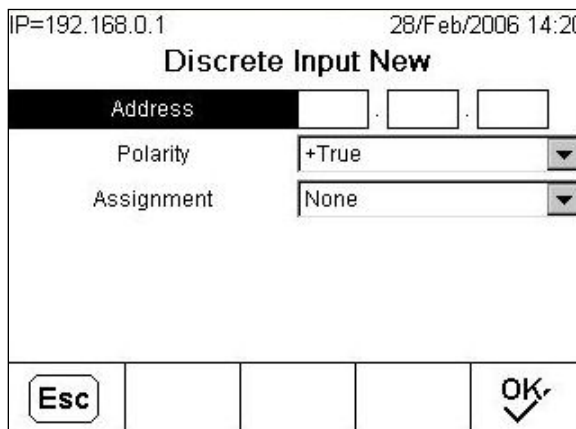

Figure 3-89: Discrete Input New Screen
2. Press the EDIT softkey  to open the setup screen for editing an input assignment or press the INSERT softkey  to open the setup screen (Figure 3-89) to create a new input assignment.